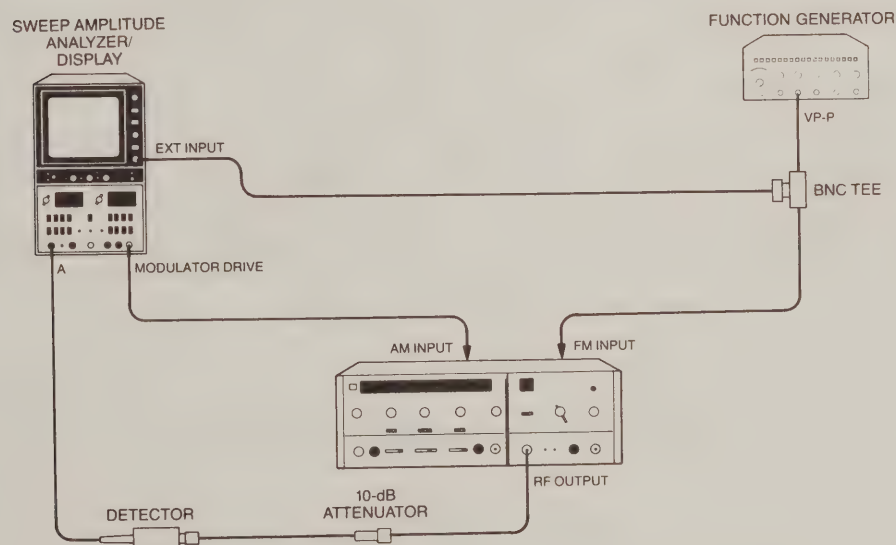

Figure 5-10. YTM Frequency Tracking Adjustment Setup
- h. Connect the equipment as shown in Figure 5-10. Be sure that the 100k Ω Resistor is still connected.